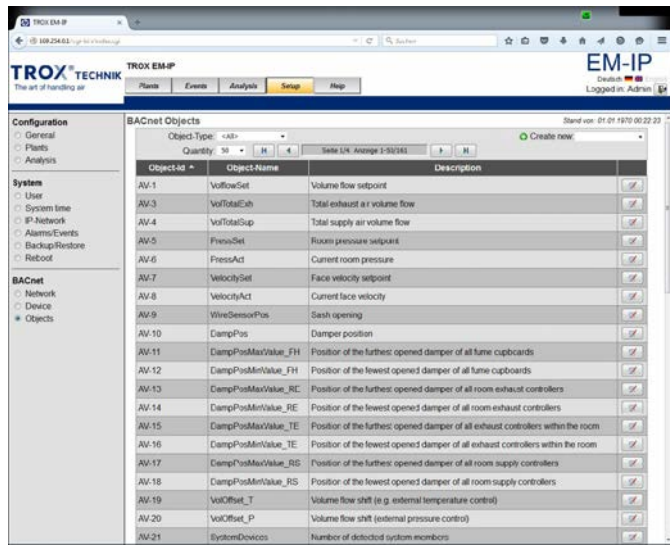

Fig. 40: BACnet objects
- ⇒ The 'BACnet objects' (Fig. 40) menu is displayed.